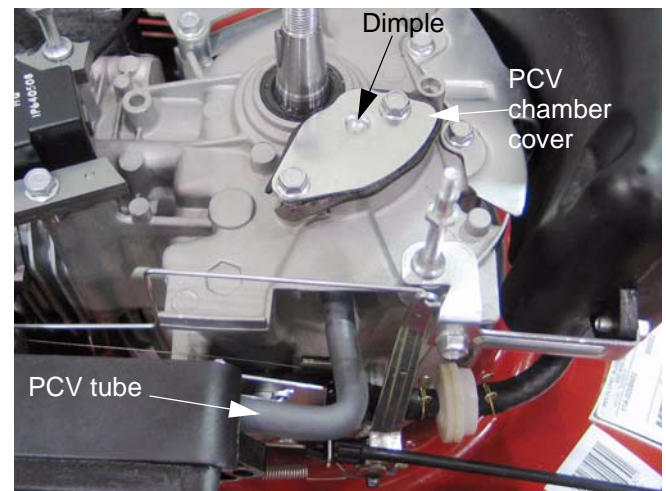

Figure 5.8
2. Remove the two screws that hold the PCV chamber cover to the engine block using a 10mm wrench. See Figure 5.8.